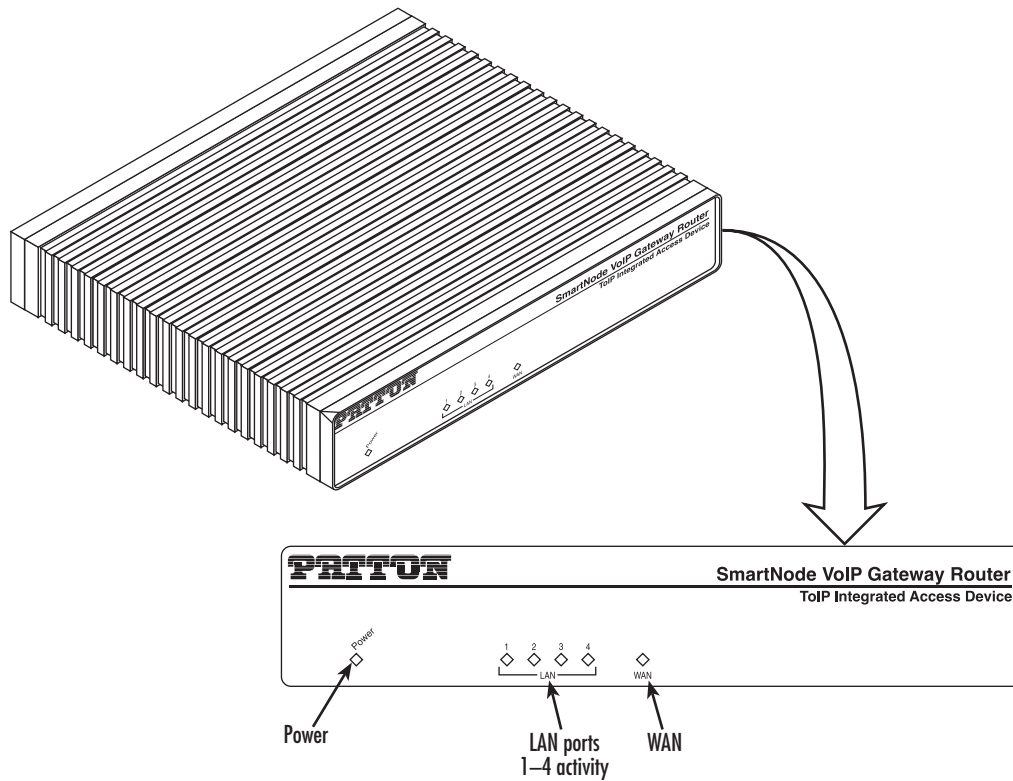

Figure 5. Router front panel LEDs
4. Verify that the green *Power* LED is lit (see figure 5).